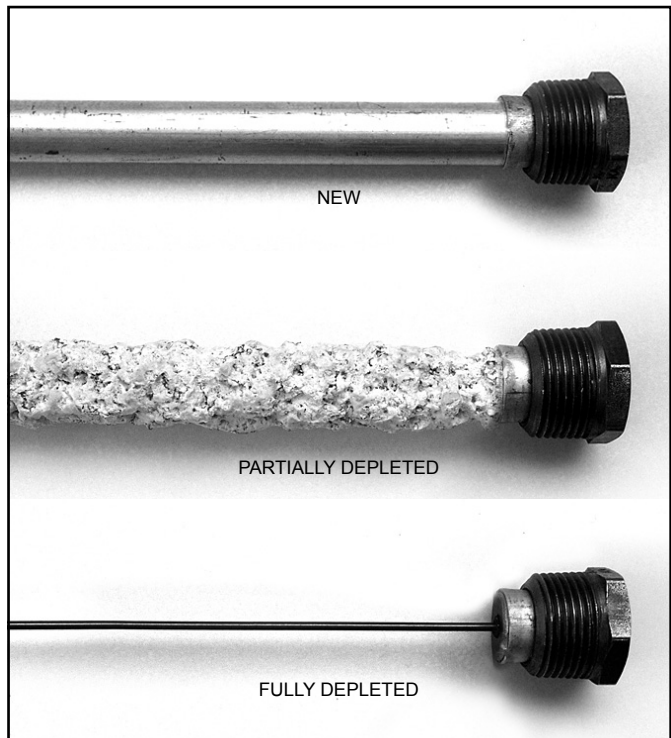

Figure 55.
**Anode Rod.** The anode rod is a sacrificial metal rod that helps avoid corrosion and premature failure (leaks) in the tank. The anode rod is a consumable item. Inspect the anode rod after the first six months of operation when you drain and flush the tank. Replace the anode rod if it is substantially worn out or depleted (see Figure 55). Thereafter, inspect the anode rod annually or more frequently if needed. If you use a water softener, your anode rod will deplete faster than normal. Inspect the anode rod more frequently, replacing the anode rod if it is depleted. Once the anode rod is depleted, the tank will start to corrode, eventually developing a leak. Obtain a new anode rod from your local plumbing supplier or have a qualified person replace it. (Anode rods are a consumable item and are not covered under warranty).